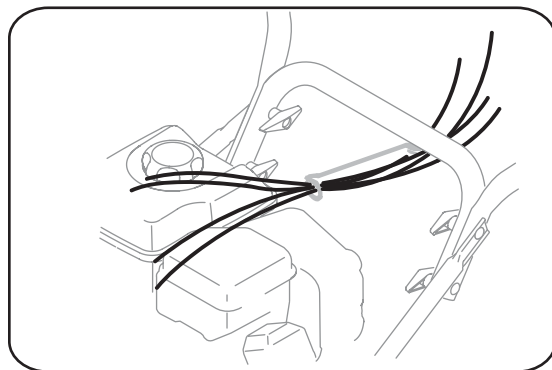

Figure 3-5
5. Check that all cables are properly routed through the cable guide. See Figure 3-5.